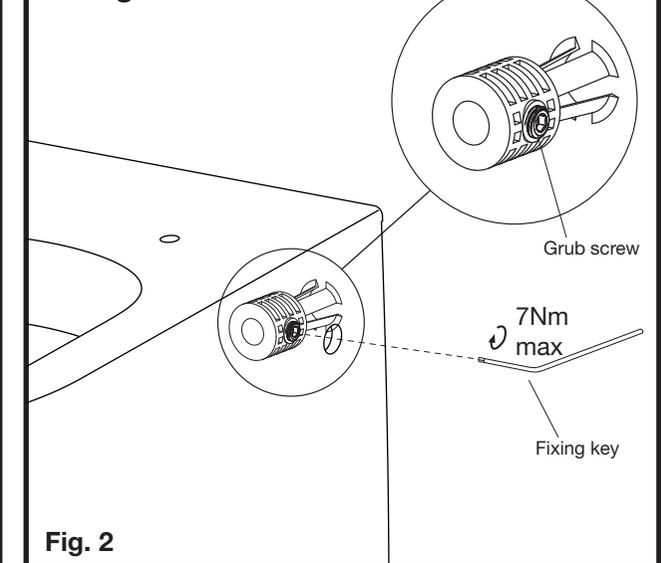

Fig. 2
- 10 - Fit the plastic fixing bushes into the holes provided with the grub screw facing the fixing holes in the side of the pan, as detailed in **Fig. 2**.